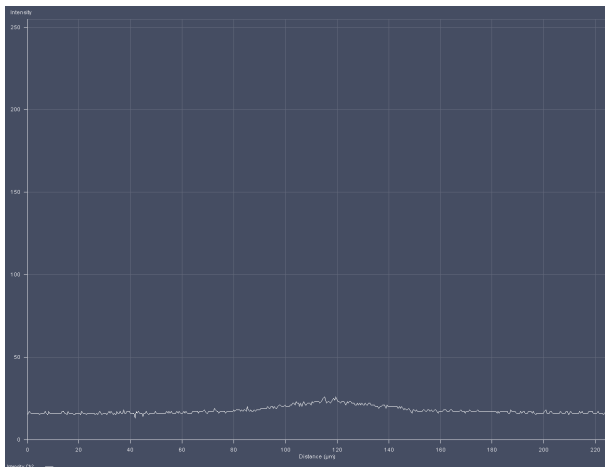

Fig. 284 Selection of Line Scan diagram
- The diagram (Fig. 284) shows a line with a bump, which is the result of reflected light on the optical axis not focused yet on the lower glass surface. You might adjust the line to lower or higher values by altering the gain or laser power.